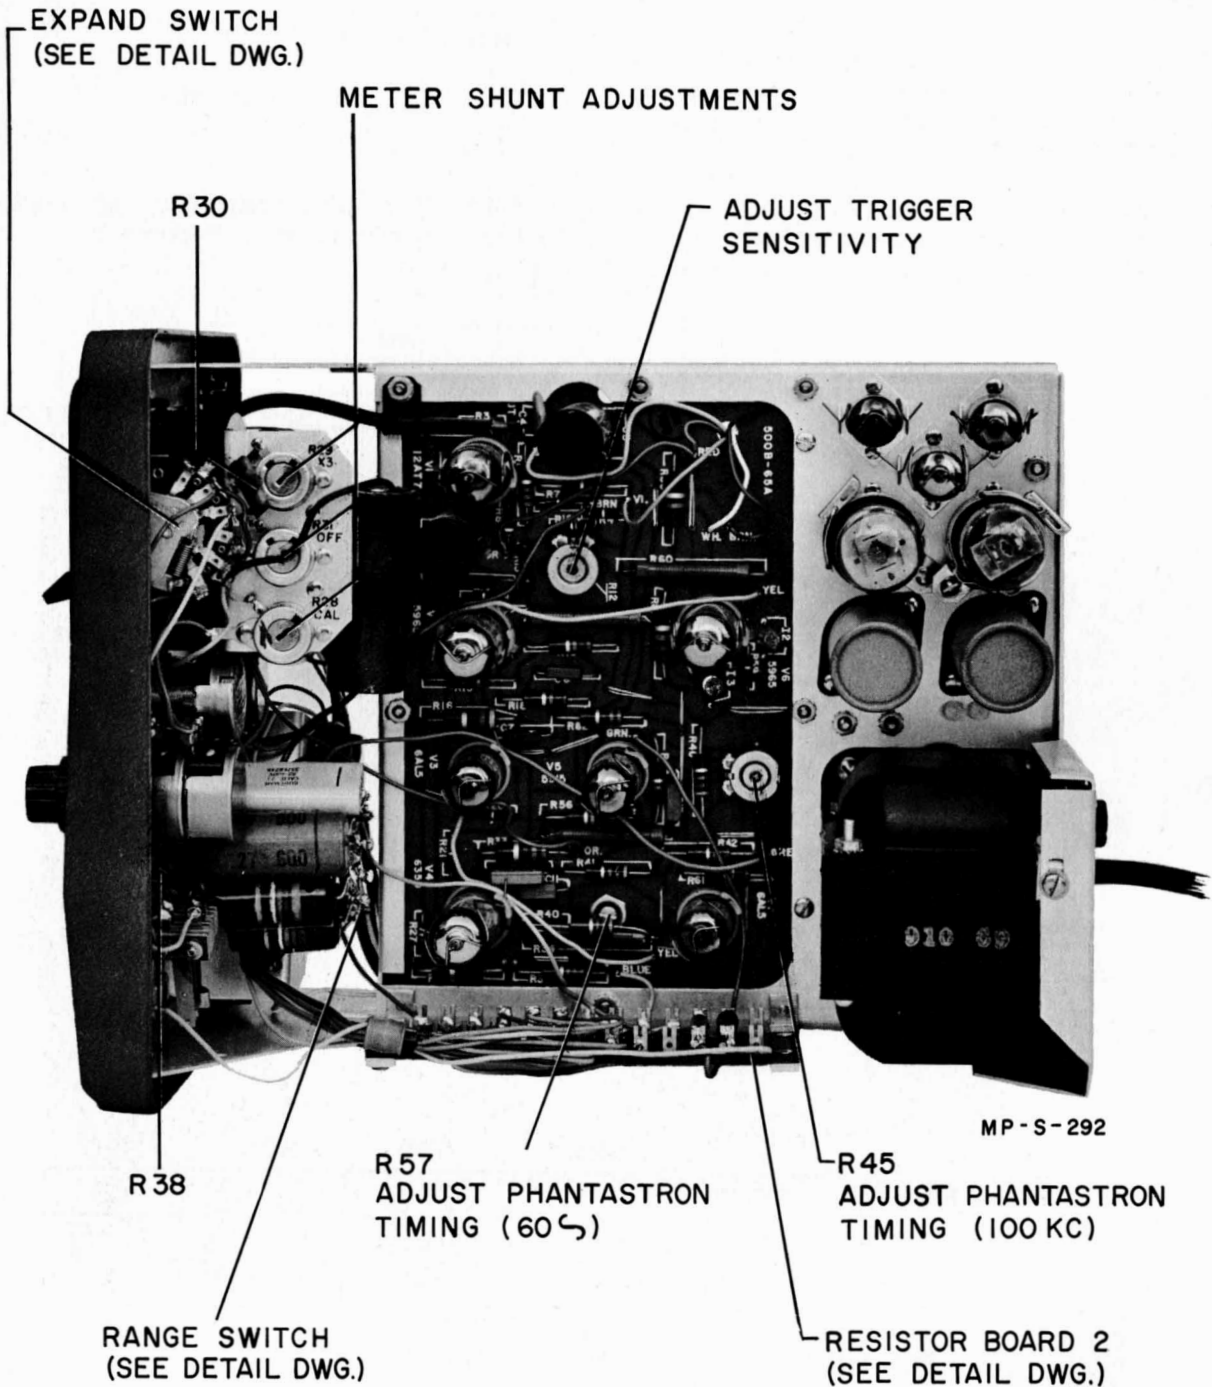

Figure 4-2. Left Side View of Instrument Showing Adjustments
a. Turn input SENSITIVITY control to maximum (CW).
d. Adjust R12, shown in Figure 4-2, back and forth to find those limits between which the instrument reads properly. Center R12 between these limits. (Adjustment should be nearly correct at this point.)
- g. Adjust R31, shown in Figure 4-2, so that pointer indicates same reference mark established in step d.
i. Place an oscillator signal of exactly 100 cps into 500B INPUT terminal. Adjust R57, shown in Figure 4-2, if necessary so that meter pointer indicates exactly "10".
k. Set meter pointer on 500B to exactly "3" with R29, shown in Figure 4-2.
m. Adjust 500B meter pointer to "10" (calibrate reading) with R28, shown in Figure 4-2.